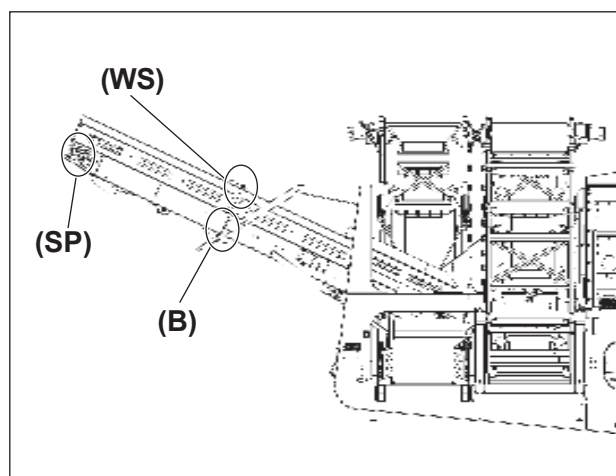

Figure 5.17 - Tail Conveyor in Working Position
2. Ensure tail conveyor slide pins are in position (SP), Ref: Figure 5.17.
4. Remove bolts (B) and working stays (WS), Ref: Figure 5.17.